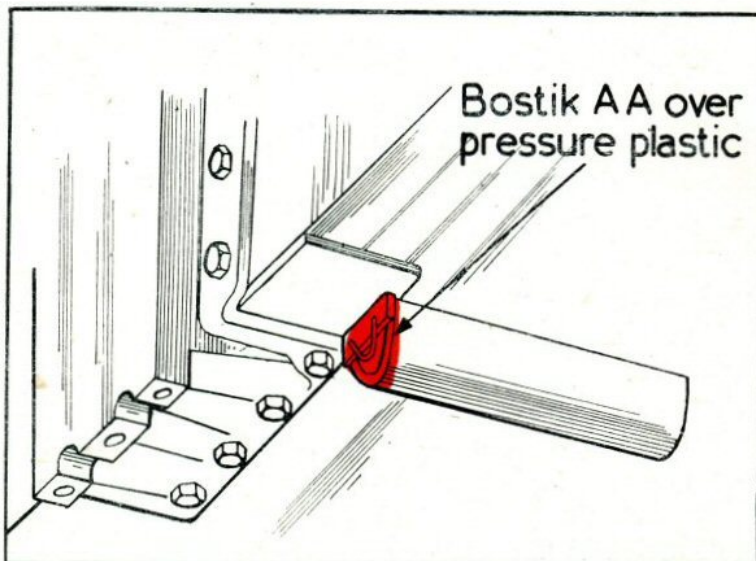
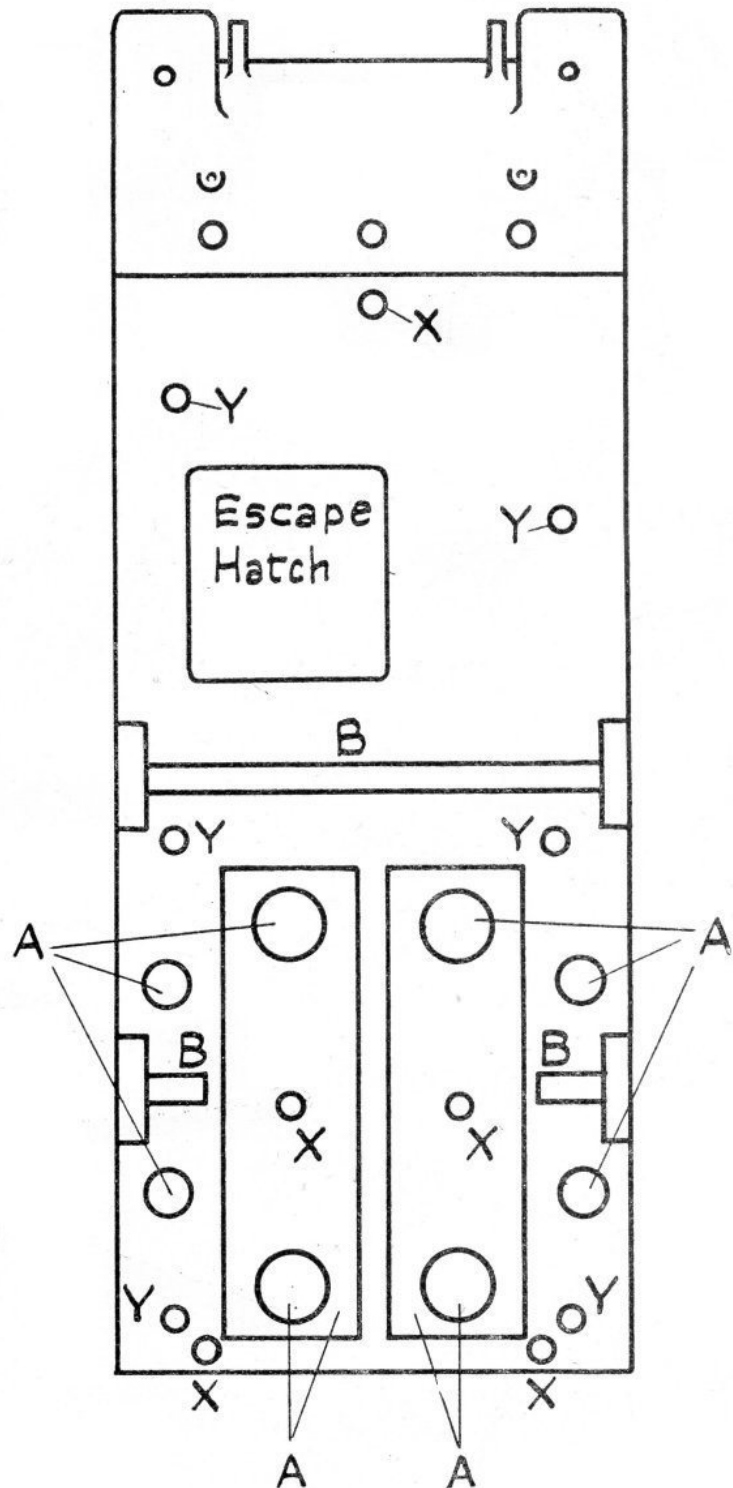

Fig. 8. Sealing transverse channel.
Fig. 12. Diagram of hull bottom.
- (a) Using Pressure Plastic seal each end of the transverse channels marked B in Fig. 12 by plugging with plastic. Fig. 8.
All plugs and plates marked "X" in Fig. 12 by covering completely.
Seal six dump valves, marked "Y" in Fig. 12 as follows :—
Seal the access plates on the bottom plate, marked "A" in Fig. 12.